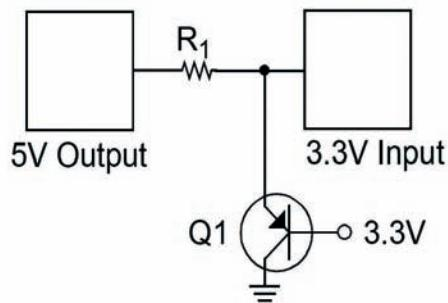

Figure 4: Transistor clamp
3.3V supply voltage above 3.3V. To prevent this problem, a transistor can be substituted which routes the excess output drive current to ground instead of the 3.3V supply. **Figure 4** shows the resulting circuit.